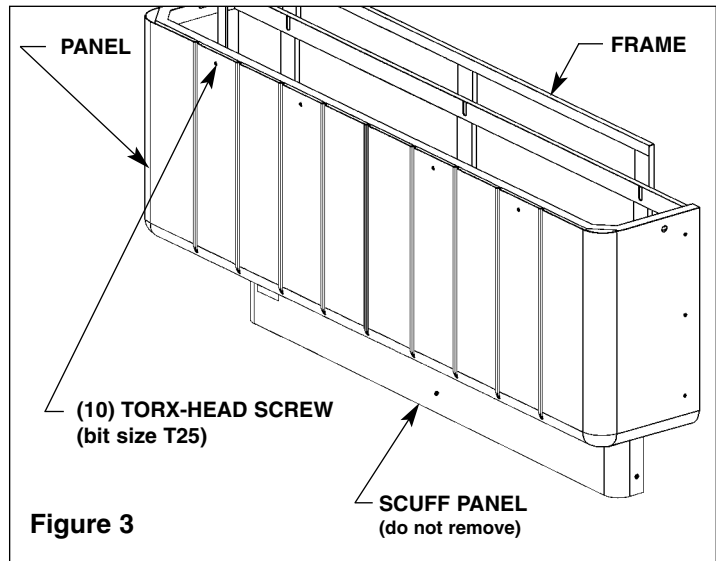

Figure 3
1. Using a T25 bit, remove the ten Torx-head screws securing the panel to the frame and remove the panel (see Figure 3).
4. After testing is complete, reinstall panel to frame. Fasten panel with the ten Torx-head screws provided (see Figure 3 on page 7).